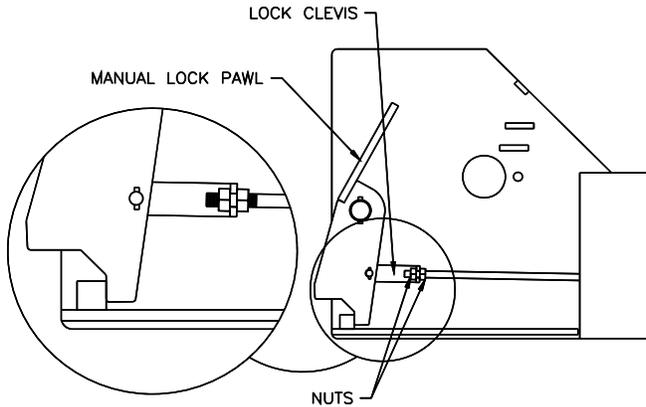

Fig 4 – Lock Clevis
- 4) Check the lock release bar to ensure it is secure and that the lock pawl is in the correct position as shown in **Fig 4**. Adjust if necessary. Verify the lock moves freely and make sure the lock pawl return spring doesn't over-travel and interfere with Lock Ladder.
- 17) With runways and cross beams loose, attach the mechanical lock bar to both cross beams with the supplied hardware. Tighten once cross beams are attached to the runways. **Verify the mechanical lock release moves freely and lock pawl return spring doesn't interfere with Lock Ladder. (See Fig 4)**